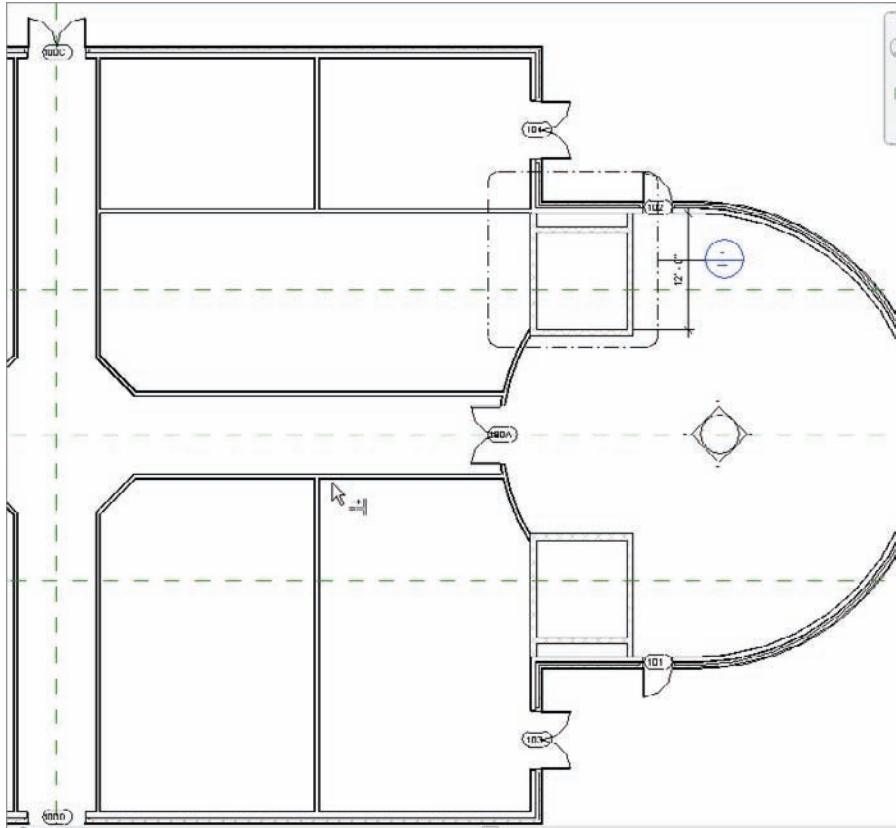

FIGURE 4.46 The finished walls
4. Pick the vertical wall that does not quite intersect. Press Esc, and your walls should now look like Figure 4.46.